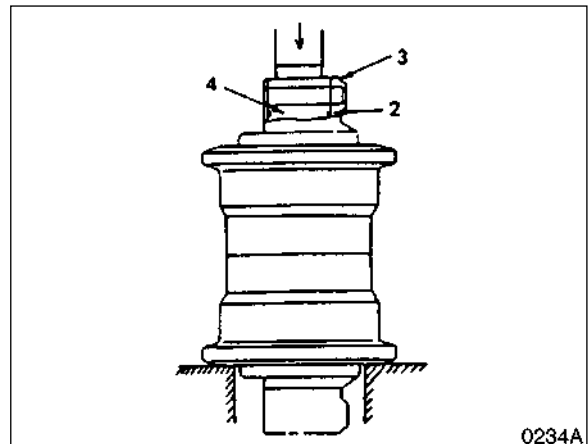

Figure 33
3. Separate the collar (3, Figure 33) from the axle, using a press.